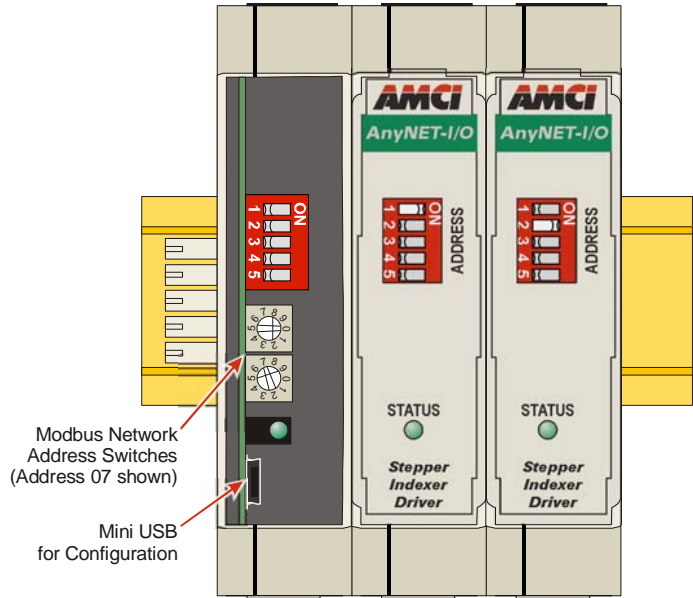
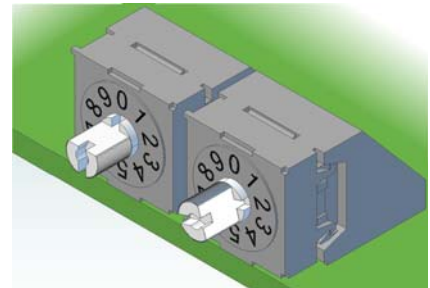

Figure 1.4 ANG1(M) Front Panel
Figure 1.5 Modbus Address Switches
The front panels of three ANG1(M) modules are shown in figure 1.4. The front cover is hinged on the bottom, and swings down to allow you to change the DIP switch address settings. The front panel also has the Status LED, which give you information on the state of the module.
Figure 1.4 shows the ANG1M with the front cover removed. It shows the location of the two rotary switches that set the address of the ANG1M on the Modbus Serial Line network as well as the USB port that is used to configure the ANG1M.
The AnyNET-I/O platform allows you to connect up to six modules to a single network connection in what we call an AnyNET-I/O Stack. The DIP switch behind the front panel cover is used to set the address of the module within the AnyNET-I/O Stack. The first module acts as the network interface and must have an address of zero. This address is set by having all of the DIP switches in their OFF position. (If you are using a single module, then it must have an address of zero.) The remaining modules in the Stack should have their addresses set to their position in the stack by setting the corresponding DIP switch to its ON position. Figure 1.4 shows the correct addressing for three modules. The module on the left is an ANG1M and has its address set to zero. The remaining modules can be ANG1, ANG1M, or even ANG1E modules and their addresses are set to one and two.
The address of the AnyNet-I/O Stack on the Modbus network is set by two rotary switches. Their placement in the module is shown in figure 1.4. Figure 1.5 shows a three dimensional view of the switches to clearly show their proper settings. Each switch has a cutout on the shaft which shows the number selected by the switch. The top switch sets the first digit of the address, and the bottom switch sets the second digit. The figure shows a Modbus address of 02.